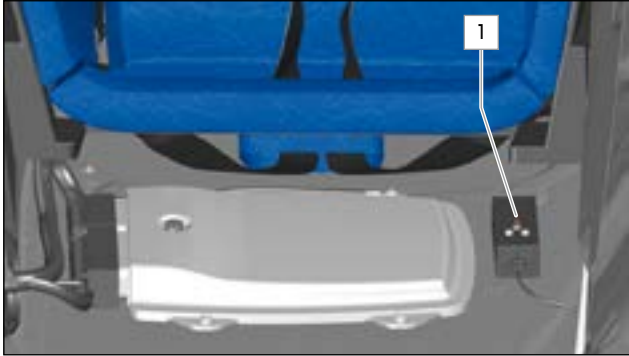

FIG.65 EXTINGUISHER FIRE CONTROL BOX UNDER THE DRIVER'S SEAT
There are three activation buttons, one internal (» Fig.66), and two external activation buttons (» Fig.65 and » Fig.67).
Turn on the control box by lifting and moving switch 1 (» Fig.65) into the ARM position (**do not press any of the firing buttons**), lift and move the switch back into the TEST position. Only once the switch is back in the TEST position should you press and release either the external or internal firing buttons. If the test is successful, the orange LED will illuminate for 10 seconds. If the test is unsuccessful the orange LED will flash for 10 seconds or more, indicating a fault in one of the following: low battery, electrical continuity fault, button to trigger the system, plug on the remote charge or firing actuator in the remote charge.
Lift switch 1 (» Fig.65) and move the switch from the TEST position to the ARM position - whenever the switch is moved from the test to the armed position, the control box will run an automatic test to ascertain that there is no anomaly, only after those checks will the LED start to flash continuously indicating that the control box is operational. Only press and release the fire button if needed, as this will activate the system.
- The switch 1 (» Fig.65) must be set to ARM to activate the complete fire extinguisher system.